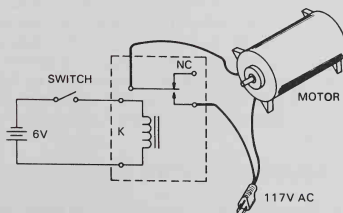

Fig. 18-20. The relay is used to remotely control a motor.
7. The relay can be used to switch "on or off" any kind of a device or machine. The contact points must be heavy enough to carry the required current of the machine. In Fig. 18-20 the relay is used to switch a motor.